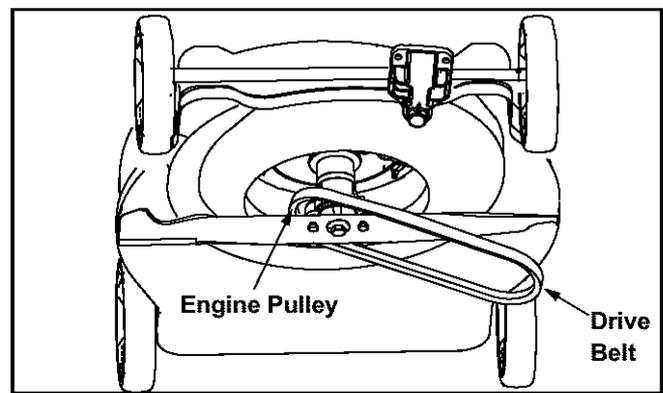

Figure 15
8. Slide the belt off the engine pulley and around the blade. See Figure 15 .